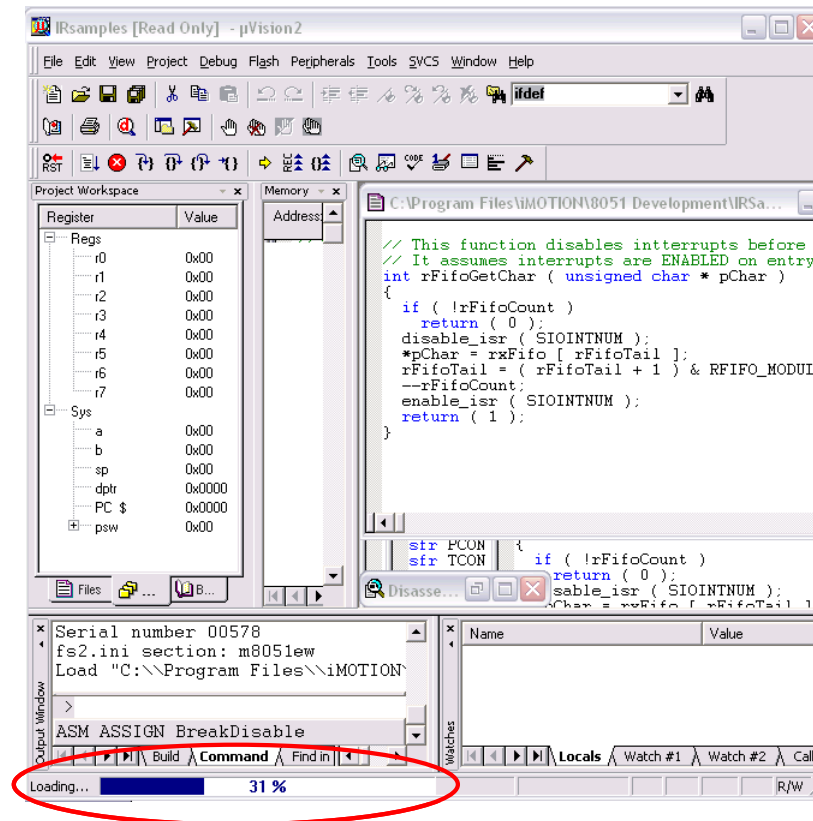

Figure 10. uVision Window During 8051 Program Load
4. Choose Debug→Start/Stop Debug Session. The FS2 Console should come up briefly and a status bar in the lower left corner will display the progress in loading the 8051 code to RAM, shown in Figure 10 below.